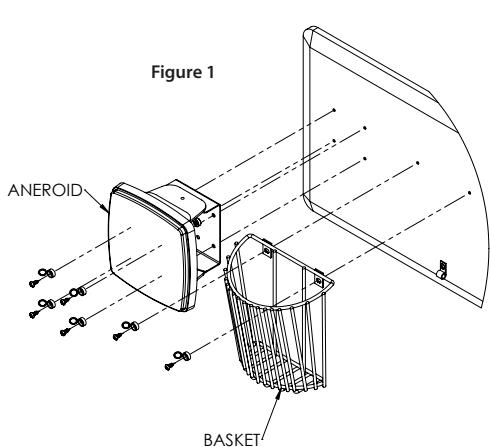

Figure 2
**Predictive Thermometer** - Secure the thermometer mount using the predictive thermometry screws provided. Do not overtighten. (Figure 2)